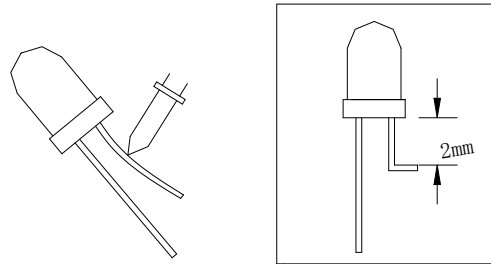

Fig. 7
- The lead should be bent at a point located at least 2mm away from the package. Bending should be performed with base fixed means of a jig or pliers (Fig.7)